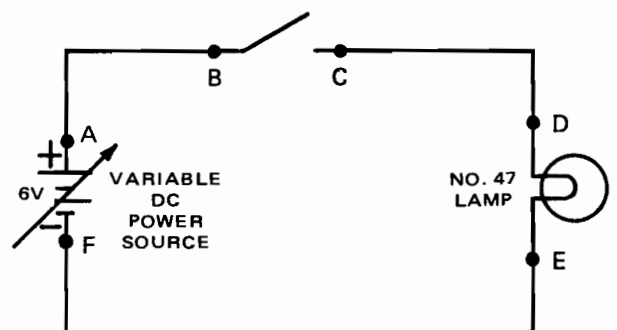

Fig. 9-1-1
1. Connect lamp test circuit of Fig. 9-1-1.